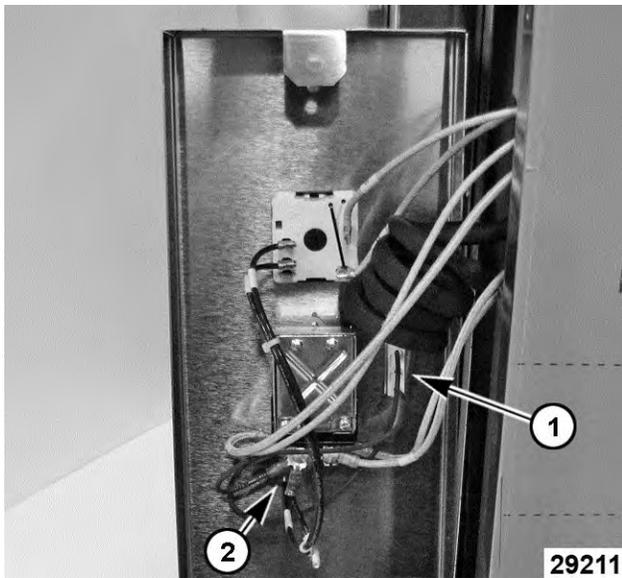

Fig. 32
- B. Oven control panel indicator lights (1, Fig. 32) electrical connections (2, Fig. 32).